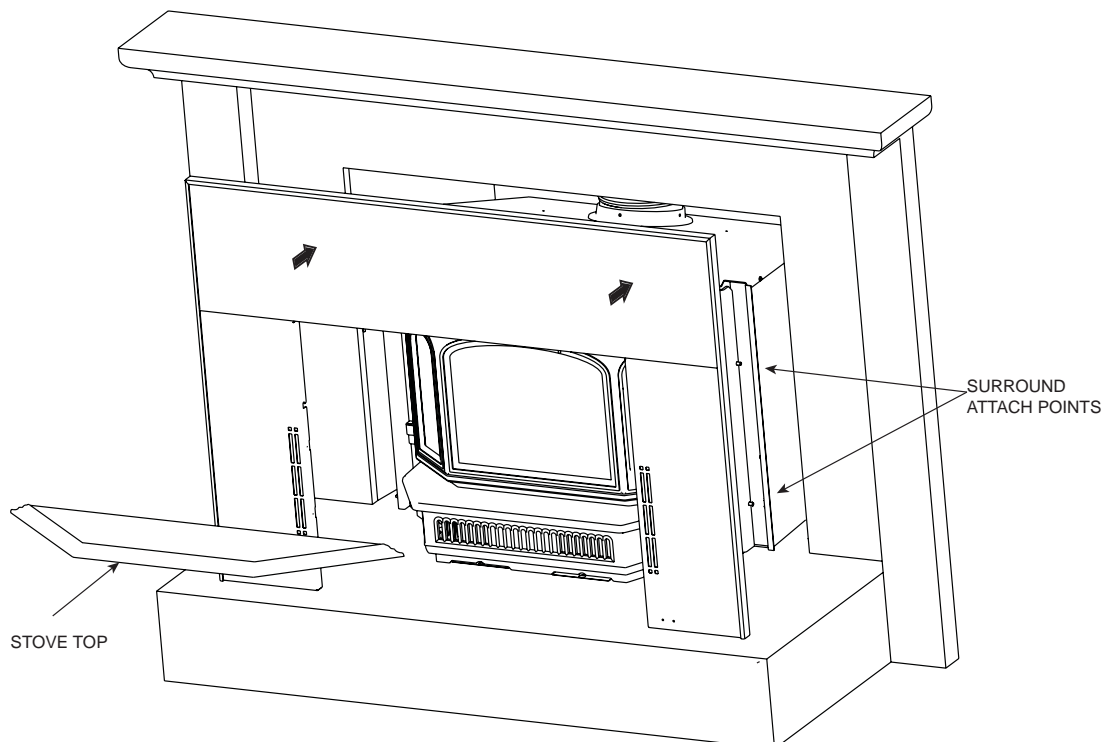

Figure 20.3
6. Install the surround set and trim set to the outer can. Place the hook in the surround sides over the surround attachment screws, 2 on each side. **Figure 20.3.**